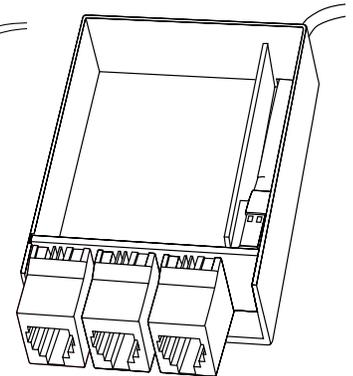

Figure 11
5. Gently pull the cable taut so that there is no slack remaining in the interface box (Figure 11).
7. Gently pull the cable taut so that there is no slack remaining in the interface box (Figure 11).